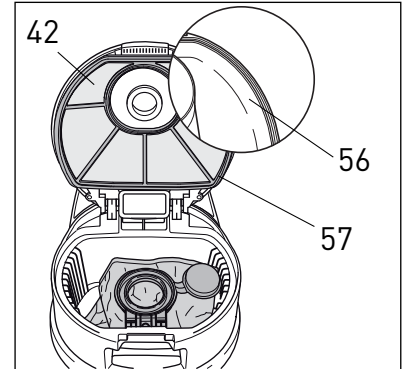

Figure 29
The motor filter (42) needs to be changed when it becomes extremely dirty or clogged. To remove the motor filter, switch off the power and unplug the vacuum. Lift the cover release catch (#15, figure 28) and raise the filter bag cover (18). Pull the filter (42) out by grasping the rubber rim (#57, figure 29) of the filter and pulling it out of the groove (#56, inset, figure 29) that holds it. Fit the new filter into the groove and push the rubber rim snugly into the groove **all the way around the filter edge**. Do not leave any loose edges. Close the filter bag cover making sure that the cover release catch snaps back into place.